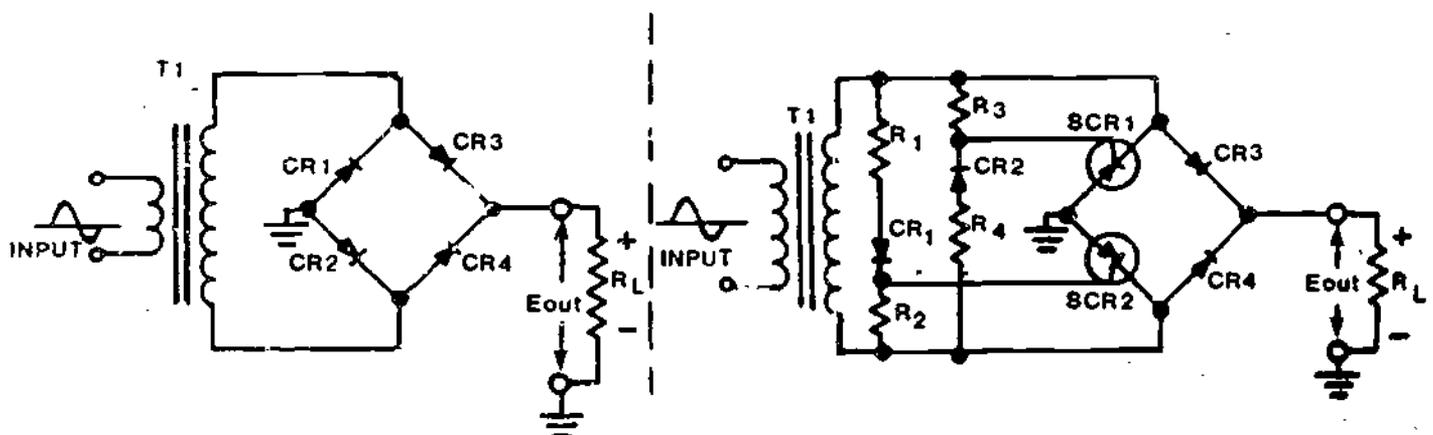

Figure 18
(21.) Recall that a full-wave SCR power supply like the full-wave diode power supply requires a center-tapped transformer secondary and therefore it utilizes only half of the transformer's secondary potential at any given time. To make full use of the secondary voltage, an SCR bridge power supply may be used. The SCR bridge power supply in many ways is identical with a regular bridge diode power supply which you have previously studied. Figure 18 shows schematics for a standard diode bridge power supply and an SCR bridge power supply. Spend some time acquainting yourself with the similarities of the two types of power supplies before proceeding.
22. Refer again to the schematics shown in Figure 18. Notice that the only difference between these two schematics is that the SCR bridge power supply uses two SCRs and gating or triggering networks.